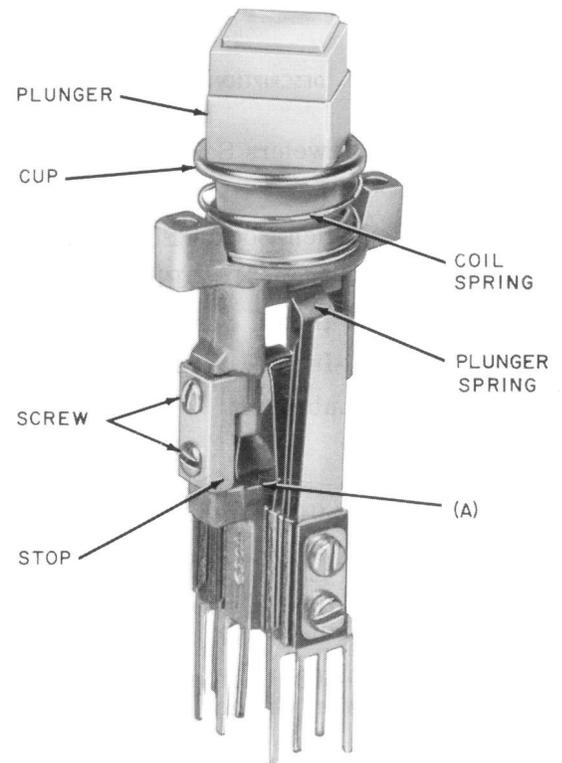

Fig. 13—630-Type Key
(c) **630-Type Key:** (Fig. 13) The pressure required to operate the plunger to the extreme position of its stroke shall not be more than 510 grams or less than 283 grams.♦
Before applying lubricant, remove and clean the plunger as covered in (6) and (7). Then lubricate the plunger using KS-14774 L2G lubricant and the KS-14208 brush as follows: On the 547-, 624-, and 650-type keys, evenly distribute one dip of lubricant over the plunger surfaces that bear against the contact springs and sleeve. On the 630-type key, distribute one dip of lubricant on the point where the catch strikes the frame (point A, Fig. 13). If the plunger still fails to return to normal, proceed as covered in (3).⚡